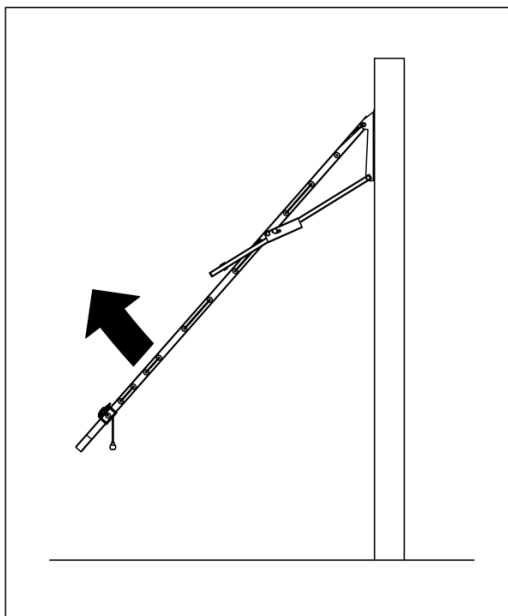

Fig 11. To Extend.
- Using both hands grab the front bar in the centre and lift upward. (Fig.11)